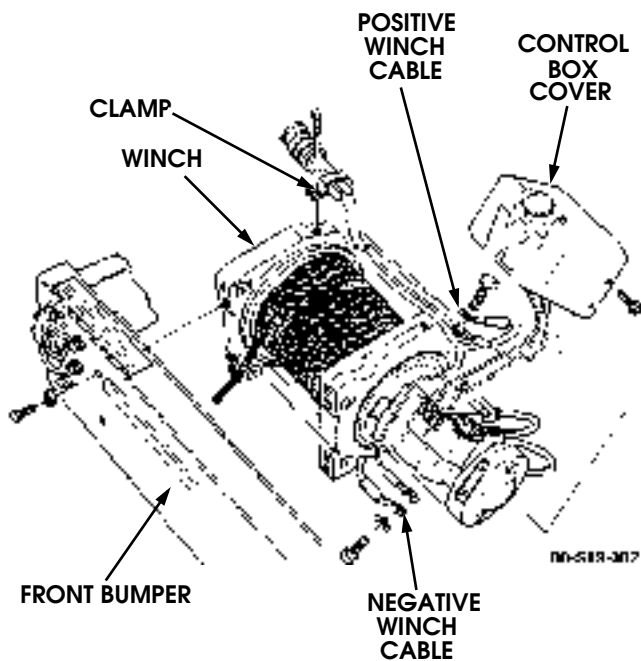

Figure 13-3: Winch and Winch Cables
4. Remove four nuts, washers, bolts, and winch from front bumper (Figure 13-3).
1. Install positive winch cable on winch with bolt (Figure 13-3).